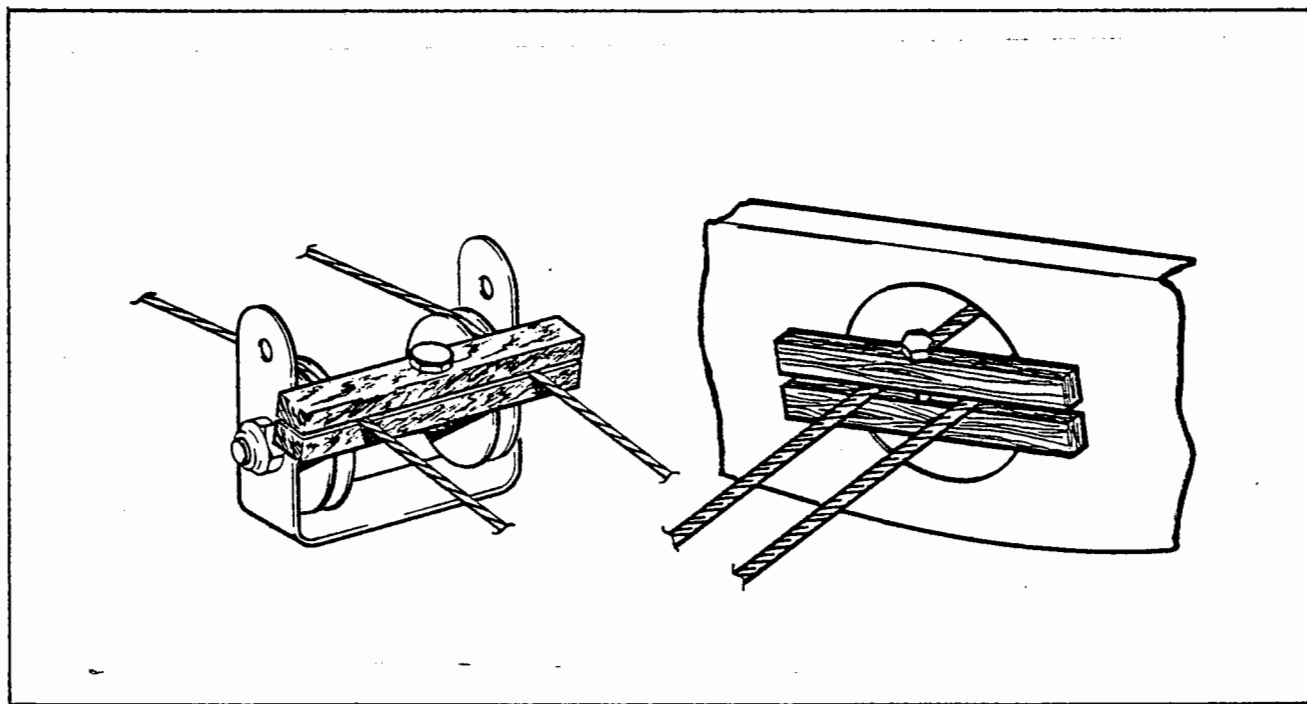

Figure 27-18. Methods of Securing Trim Cables
2. If the aft trim cable is not to be removed, block the cables at the pulleys in the aft section of the fuselage to prevent them from unwrapping from the trim drum. (Refer to Figure 27-18.)
2. Block the trim cables at the first set of pulleys forward of the cable turnbuckles in the aft section of the fuselage by method shown in Figure 27-18.